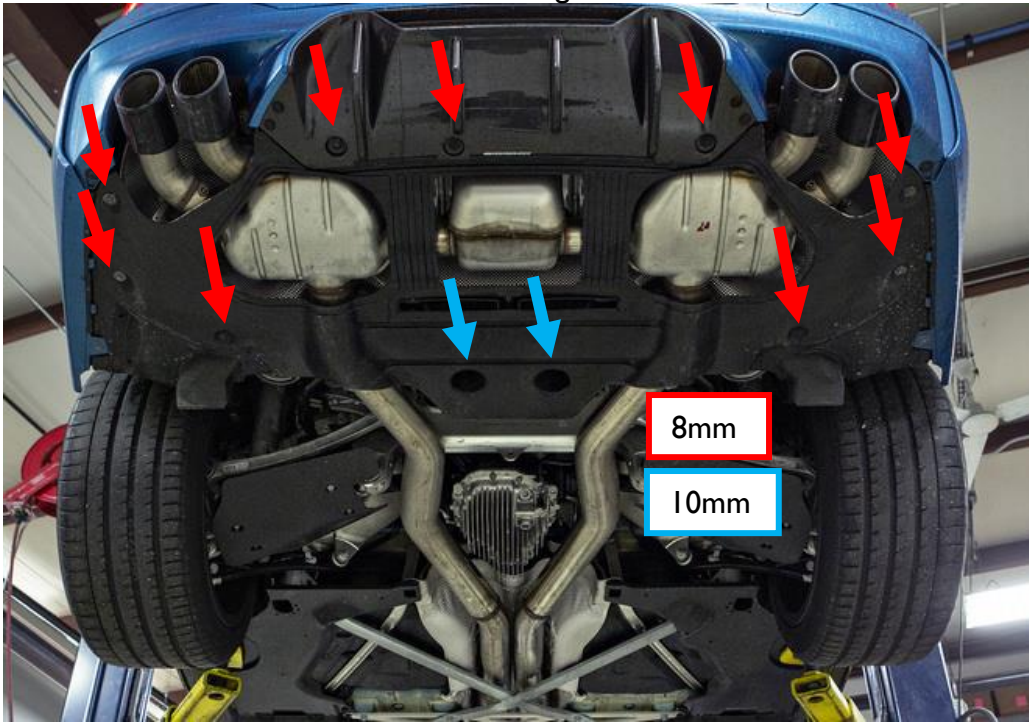

Figure 1
1. Remove the exhaust shield and place it to the side. There are nine 8mm bolts and two 10mm bolts that must be removed. See Figure 1.